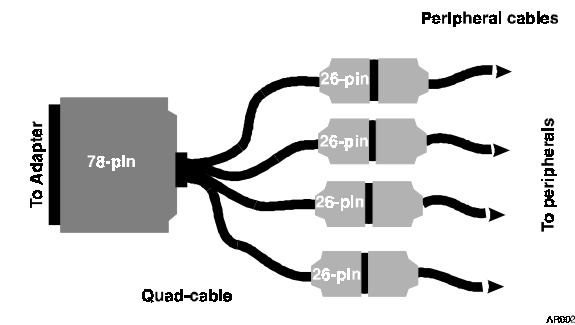

Figure 2: Four-port Interface Cabling Scheme
2. Connect cables. (See Figure 2.)